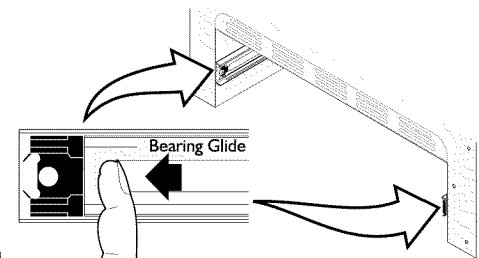

Fig. 14
- Pull the bearing glides to the front of the chassis glide (See Fig. 14).